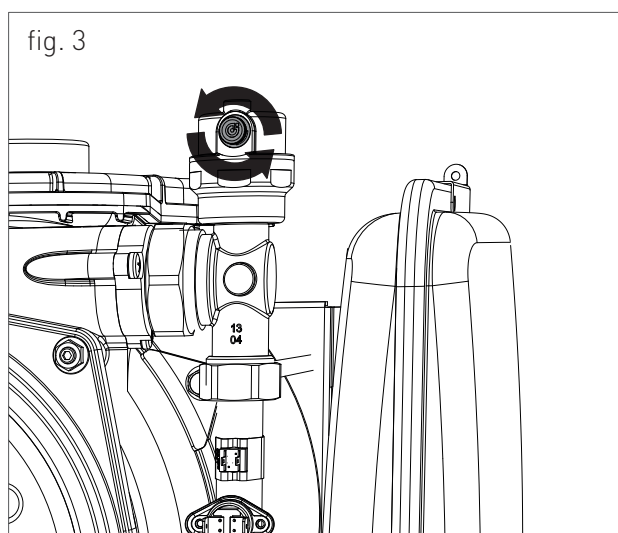

fig. 3
For machine positioning, proceed as follows (see fig. 3):
3. slightly loosen the cap of the auto air vent placed on the top of the condensing block (fig. 3) to release the air from the top of the system;